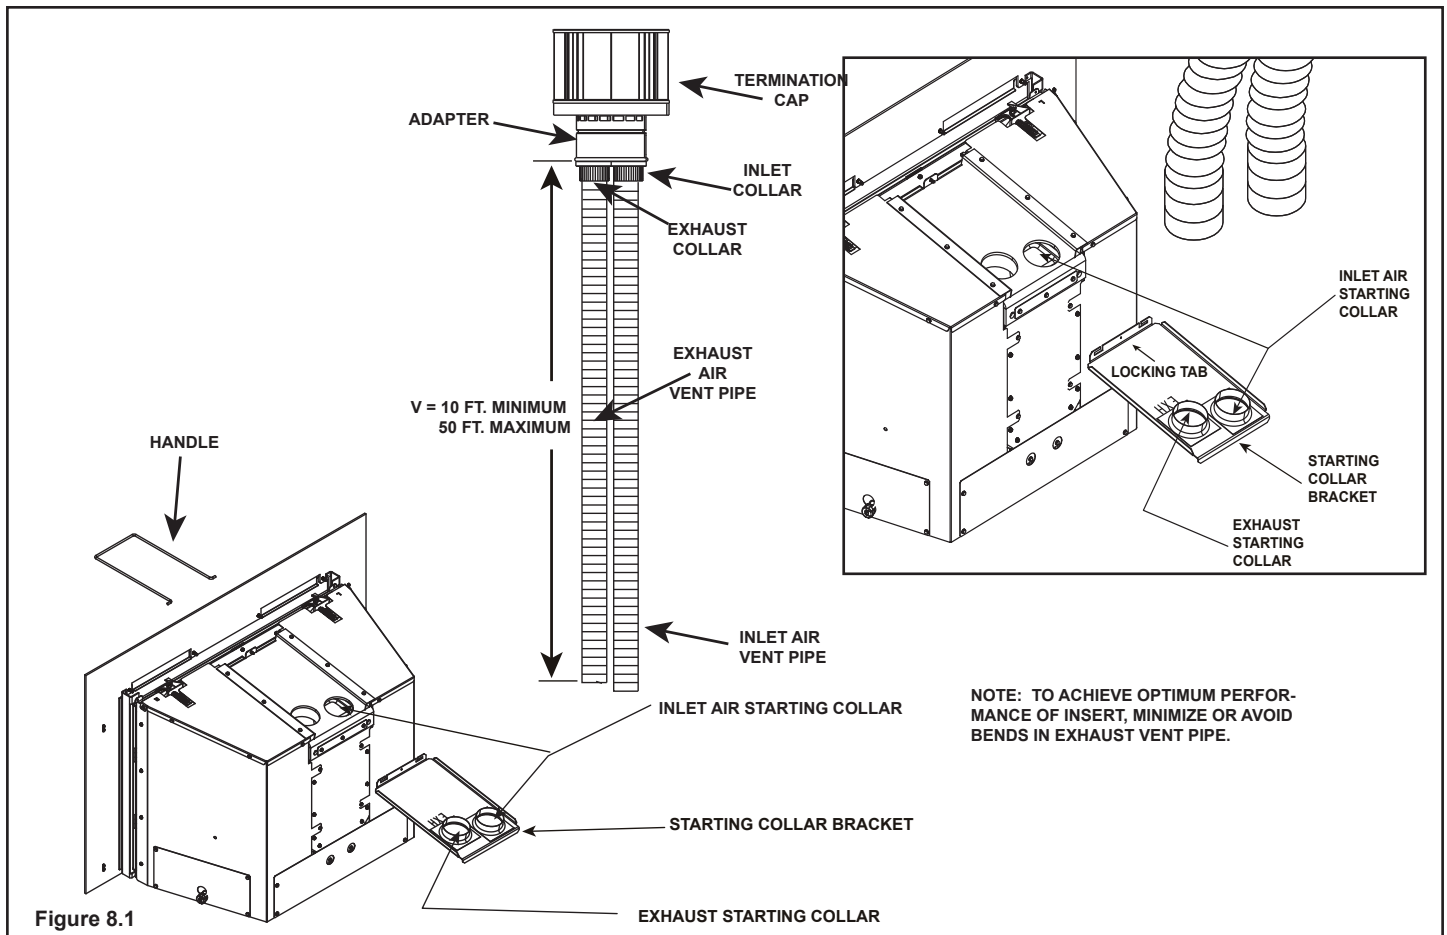

Figure 8.1
- Secure the exhaust flexible vent pipe to the 3 foot section stainless steel flexible vent pipe using the factory-installed 3-inch collar in the stainless steel section of pipe (see Figure 8.1).
- Use 3 screws to attach the section of inlet air vent to the inlet collar on the collar slide plate. See Figure 8.1.
- Secure collar slide plate to appliance by placing locking handle into position with locking tabs (see Figure 8.1) and secure with #8 screw.